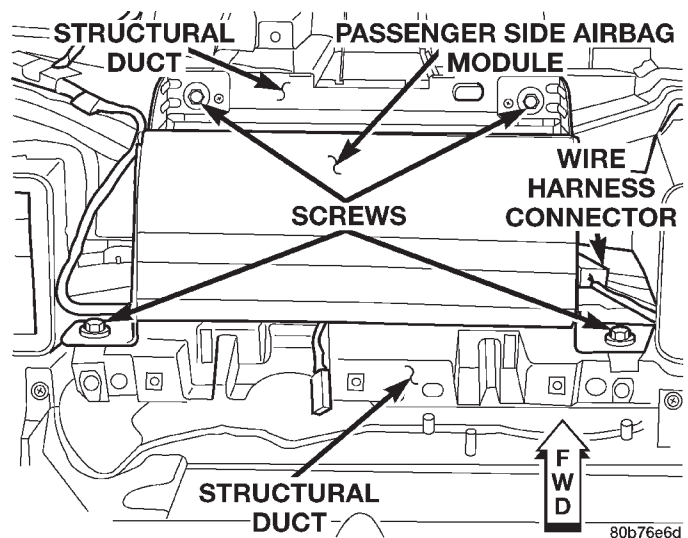

Fig. 9 Passenger Side Airbag Module Remove/Install
(1) Disconnect and isolate the battery negative cable. If either of the airbags has not been deployed, wait two minutes for the system capacitor to discharge before further service.
(2) Remove the top pad from the instrument panel. Refer to **Instrument Panel Top Pad** in the Removal and Installation section of Group 8E - Instrument Panel Systems for the procedures.
(3) Disconnect the instrument panel wire harness connector from the passenger side airbag module wire harness connector, which is secured to the outside of the outboard airbag module end bracket.
(4) Remove the two screws that secure the two airbag module end bracket front mounting tabs to the front of the instrument panel structural duct (Fig. 9).